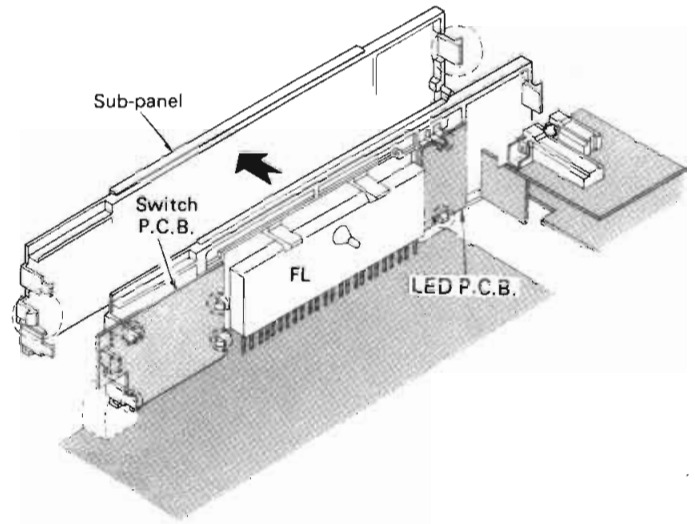

Fig. 4
2. Release the 3 claws of switch P.C.B. and the 2 claws of LED P.C.B. (See Fig. 4.)
3. Release the 2 claws of sub-panel and FL respectively. Then pull out the sub-panel. (See Fig. 4.)